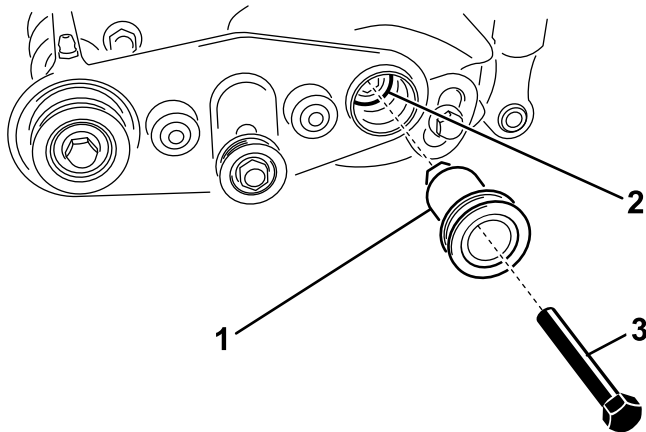

Figure 8
- A. Insert the drive pulley through the hole in the right brush support and rotate it as needed until it slides into the brush driver; see Figure 8.
driver with the hex bolt as shown in Figure 8; torque to 8 to 9 N·m (70 to 80 in-lb).